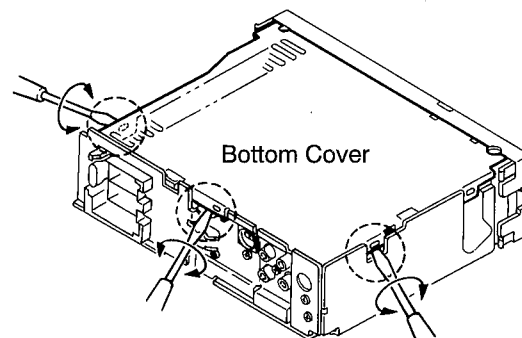

Fig.2-5
■ Removing the bottom cover (See Fig.2-5)